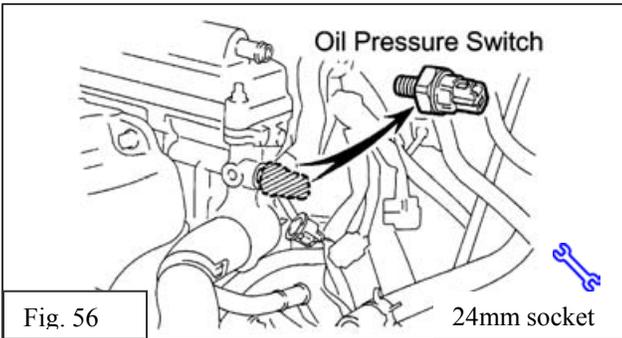

Fig. 56
- (b) Unplug oil pressure switch. Remove OE oil pressure sending unit. Use a deep 24 mm (or 15/16") socket to remove. Fig. 56.